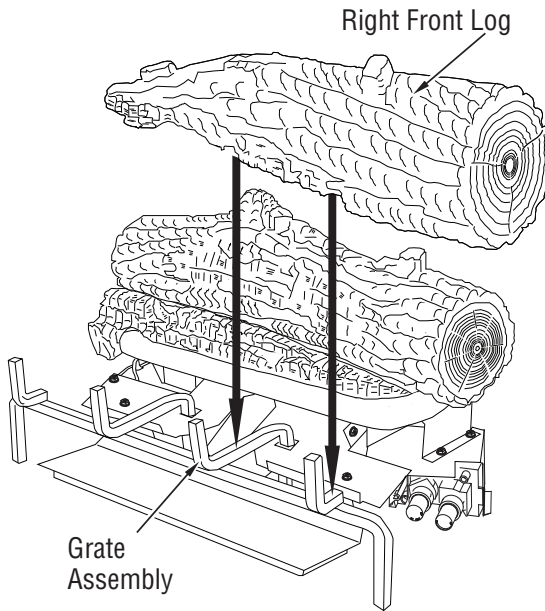

Figure 35 - Installing Right Front Log
- grate assembly as shown in **Figure 35**. The log has notches in the bottom for the grate.